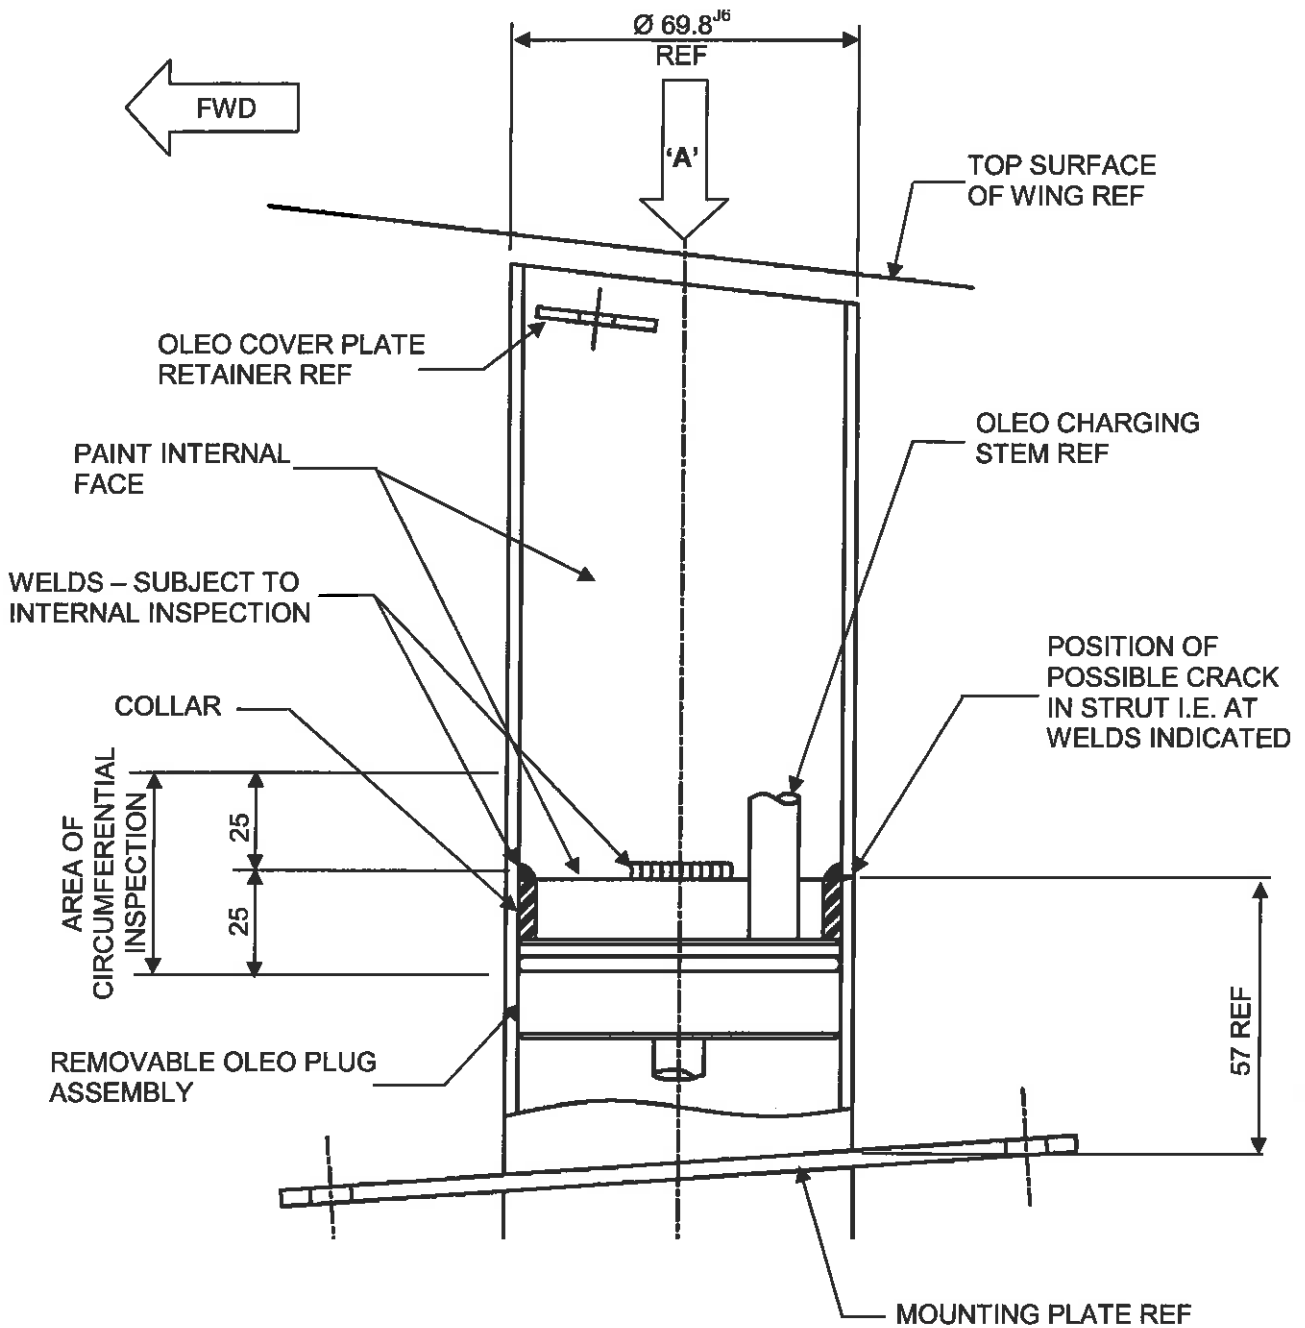

FIGURE 1
The crack was found during inspection of the main leg struts, through the oleo cover on the top of the wing. Concerned with the amount of corrosion in the starboard leg, the engineer decided to remove the leg for further investigation. No evidence of cracking was seen prior to removal. On removal of the forward main undercarriage mounting bolt water drained out. Upon removal of undercarriage the crack was found. Subsequent investigation showed the crack was in the metal portion of strut only, behind the aft weld attaching an internal collar, refer Figure 1. The mechanism of crack propagation is subject to further investigation, any airworthiness implication found will be notified in issue 2 of this SB.
- 1 Remove undercarriage legs IAW relevant aircraft's Maintenance Manual (MM).
- 2 Clean all external and internal surfaces and in the first instance check visually the external surfaces for any crack at the collar weld positions above the mounting plate, i.e. the upper part of the strut, see Photograph 1 and Figures 1 and 2. If crack/s is/are visible, scrap strut and replace with new item 126-35-225 Port and/or 126-35-226 Starboard.
- 6 On satisfactory inspection - i.e. no cracks located - ensure all dye penetrant material is removed and internal area indicated by Figure 1 is painted using white epoxy paint system. Ensure external mounting area is primed with epoxy primer.
- 13 Ensure Maintenance Schedules are amended to reflect items 10 and 12